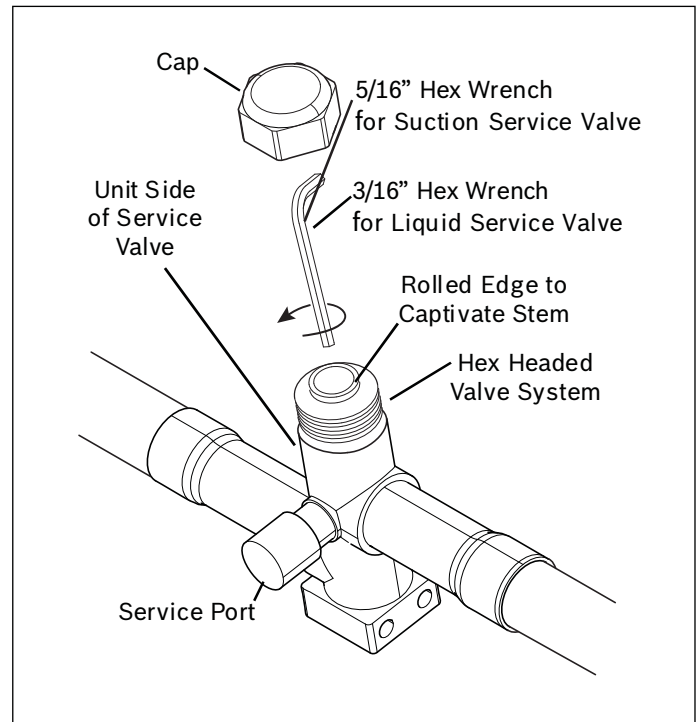

Figure 24
1. Remove Service Valve Cap (Fig 24).
2. Fully insert hex wrench into the stem and back out counterclockwise until valve stem just touches the rolled edge (approximately five (5) turns.)